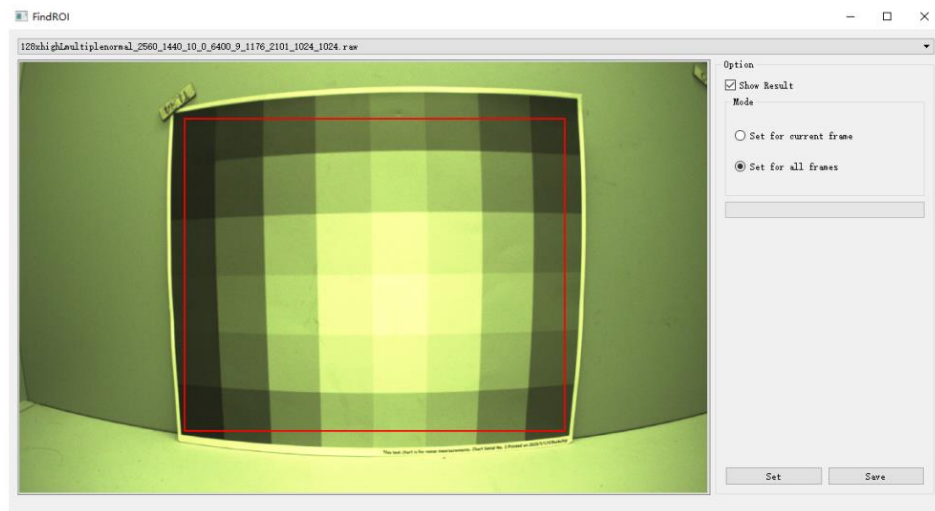

Figure 4-6-3-1
3. Click **Find ROI** to frame the position of the gradient chart, as shown in Figure 4-6-3-1, make sure that the rectangular frame is within the color block.